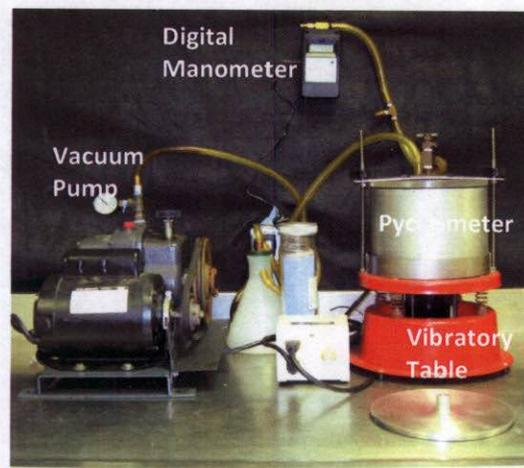

Figure 1: Vacuum Pump and Manometer Setup
- J. **Vacuum pump and manometer.** (Mercury or Electronic) **setup** – See Figure 1